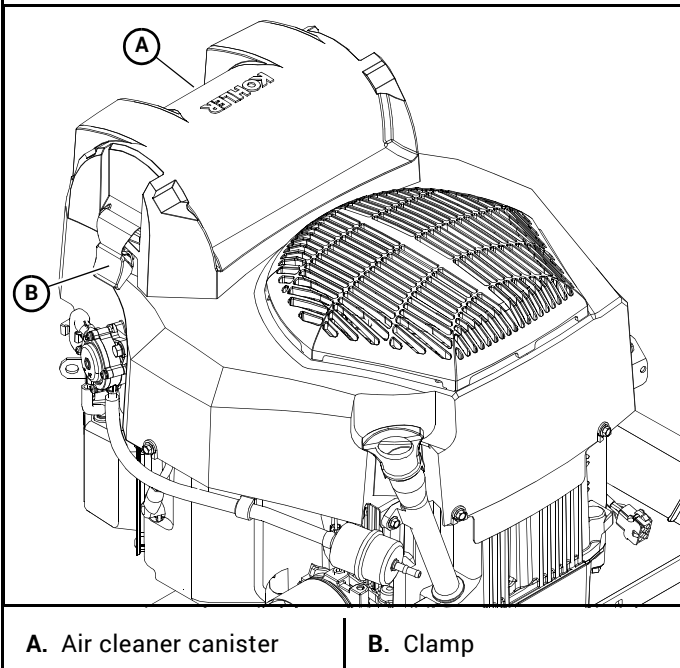

Figure 4-15
A specially designed dry filter is standard equipment on these mowers and supplies clean combustion air to the engine. Figure 4-15
3. Reinstall the top of the canister housing. Make sure it seals all the way around the lower part of the housing, then tighten the clamps. Figure 4-15